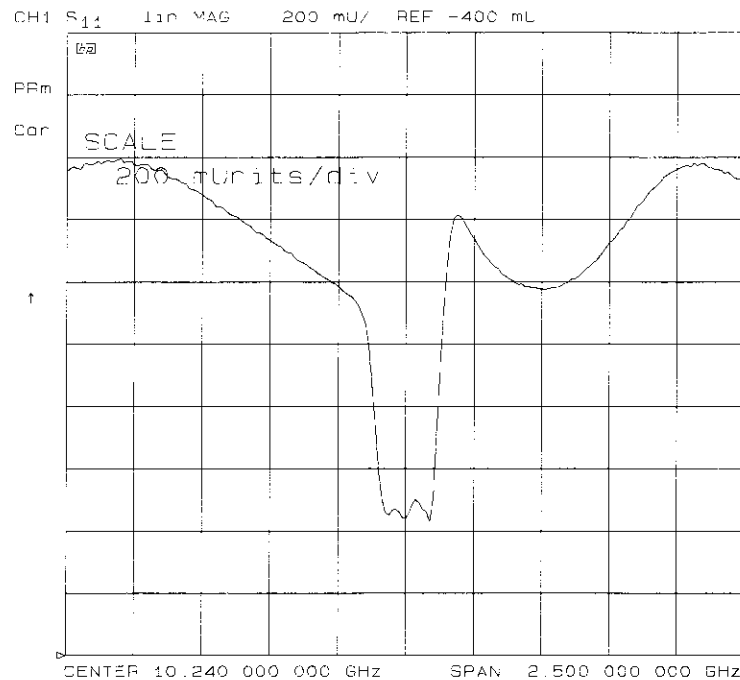

Figure 2-12. Example Reflection Coefficient Measurement Trace
2. Press **(Format)** **LIN MAG** **(Scale Ref)** **AUTO SCALE** so the analyzer shows the same data in terms of reflection coefficient, as shown in Figure 2-12.